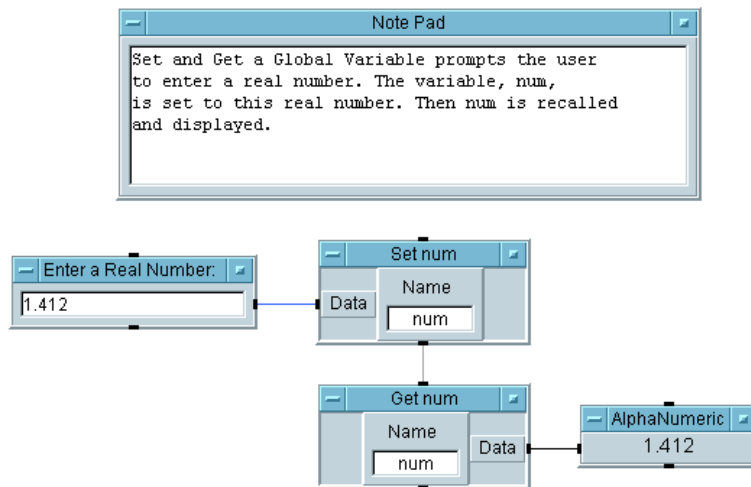

Figure 2-33. Set and Get a Global Variable
10. Enter a real number and click the run button on the tool bar. The program should look similar to Figure 2-33.